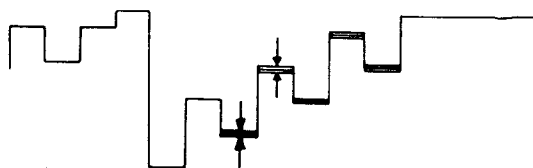

Figure 4-2. PL504 Alignment
- After changing the PATTERN into the PAL COLOUR BAR signal, adjust PL504 so that the fluctuation may be minimum and a straight line as shown in figure 4-2.